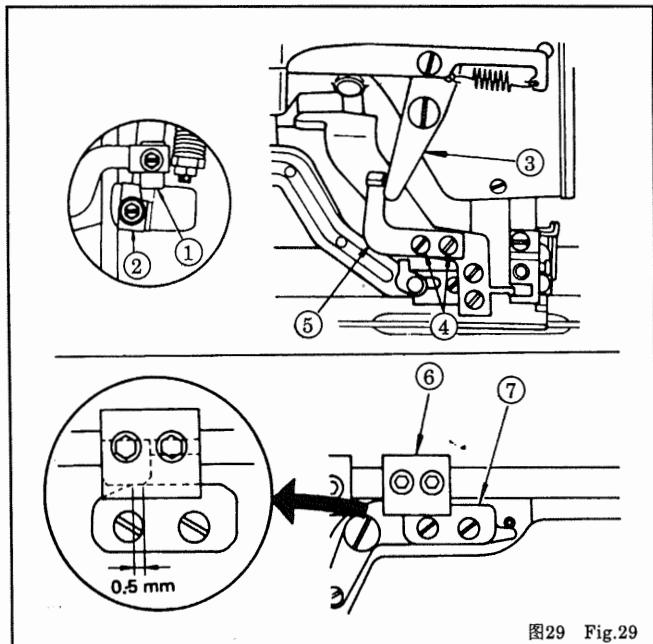

图29 Fig.29
26. 面线剪刀托架和面线剪刀限位板的调节 Fig.29
26. ADJUSTMENT OF NEEDLE THREAD TRIMMER HOLDER AND LIMITING PLATE Fig.29